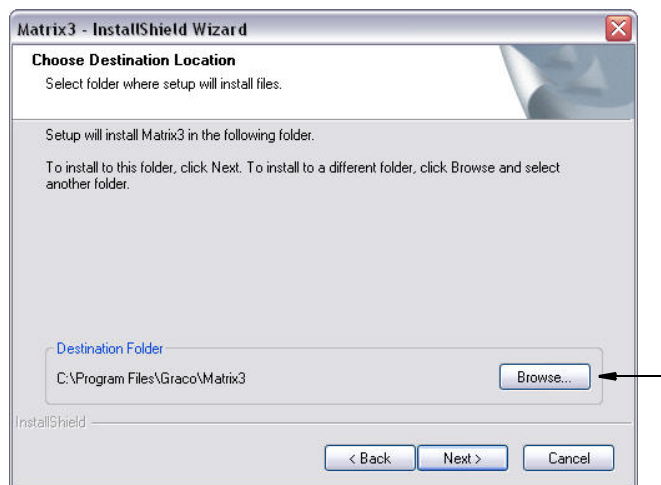

FIG. 19
8. Chose the Destination Location. The default is C:\Program Files\Graco\Matrix3. Click the Browse button, shown in FIG. 19 to select a different location.
9. Click NEXT to continue software installation and advance to the InstallSheild Wizard for Matrix3, FIG. 19. Click The BACK button to return to a previous installation screen or CANCEL to end the software installation.